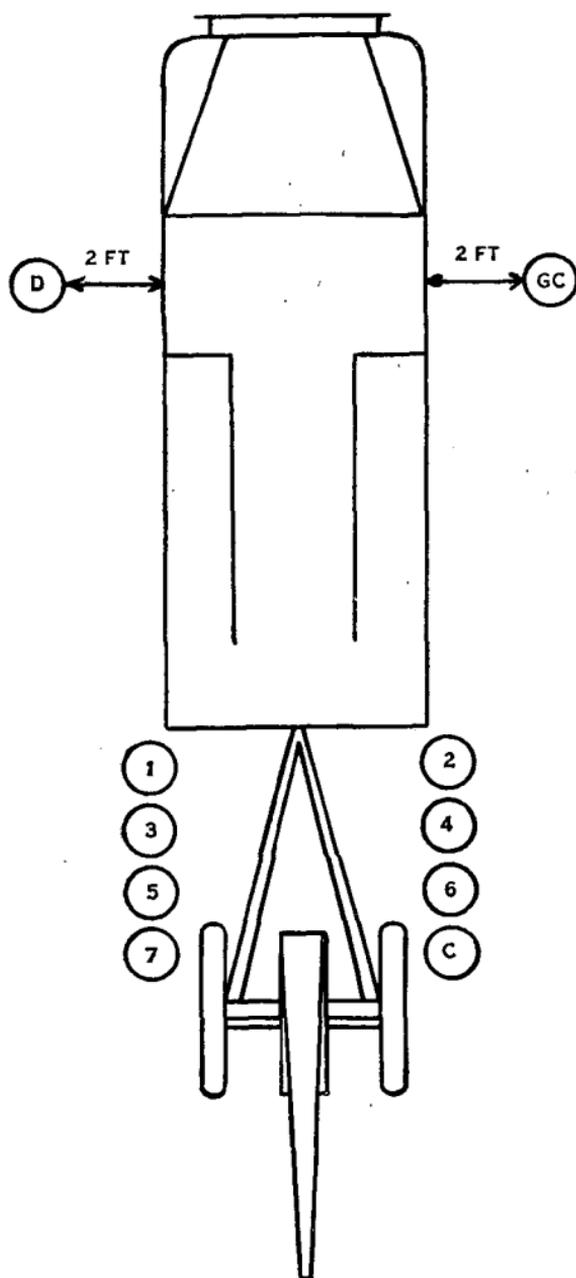
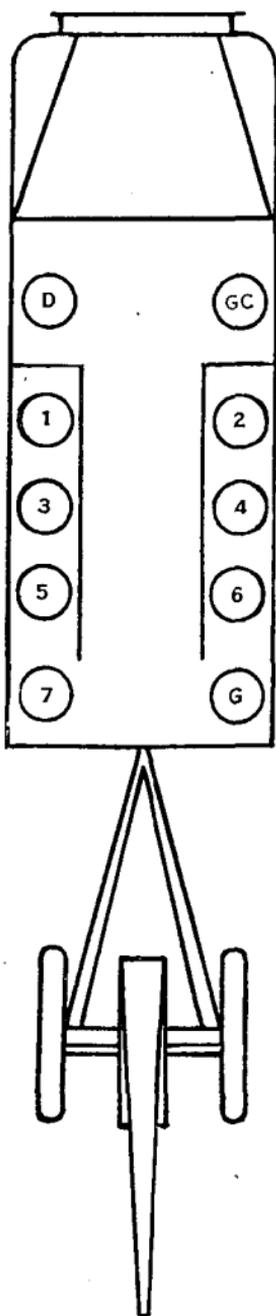

FIGURE 32.—Posts of cannoneers in PREPARE TO MOUNT.
FIGURE 33.—Posts of cannoners MOUNTED.
■ 72 To MOUNT.—The command is: 1. CANNONEERS, PREPARE TO MOUNT. 2. MOUNT. At the first command, the cannoneers move at double time to positions shown in figure 32. At the second, the cannoneers of both columns mount in order from head to rear, and take seats as shown in figure 33. Each cannoneer is assisted by the one directly behind (or in front in the case of the last cannoneer in column) to insure promptness, and prevention of injuries. If the gun commander and
■ **73. TO DISMOUNT.**—The command is: 1. **CANNONEERS, PREPARE TO DISMOUNT**, 2. **DISMOUNT**. At the first command, the cannoneers assume standing positions facing the rear of the prime mover; at the second command, they jump to the ground and at the double time take posts as shown in figure 32. If the gun commander and driver are to be included in this movement, the command is: 1. **PREPARE TO DISMOUNT**, 2. **DISMOUNT**. At the first command, the gun commander and the driver unlatch their doors and hold them slightly open; at the second command, they promptly dismount, close their doors, and take posts as shown in figure 32.